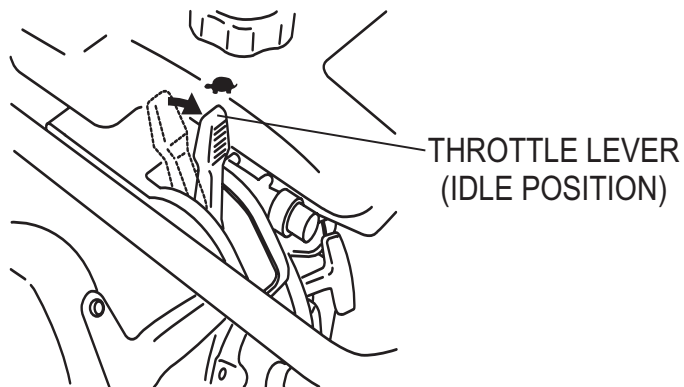

Figure 6. Throttle Lever (Idle Position)
1. Slide the throttle lever from the stop to the idle position (🐿) (Figure 6). This opens the fuel cock and the engine electrical circuit is turned on automatically.